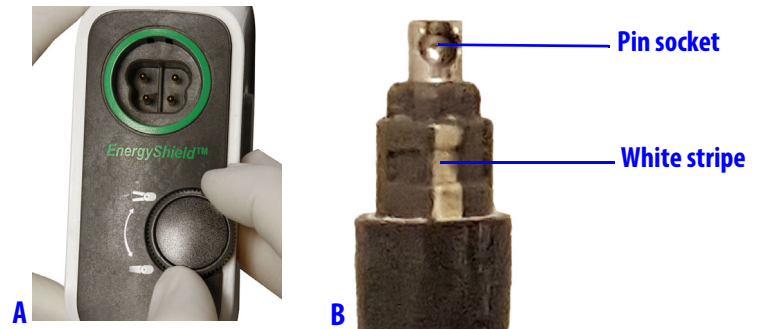

Figure 5.4 Extend pin from instrument tip and identify white stripe (A and B)
2. Rotate the Grip Release Dial on the instrument housing clockwise to extend the pin from the distal end of the instrument shaft. Identify the white stripe on the instrument shaft (Figure 5.4 A and B).